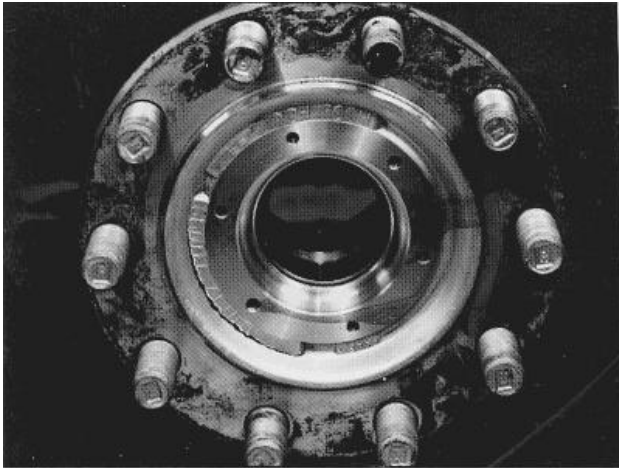

Figure 40 Abused Hub
- 6. Abused Hub (Figure 40). This condition is caused by overloading, improper tire changes, hitting curbs at high speeds, or hitting curbs at sharp angles.